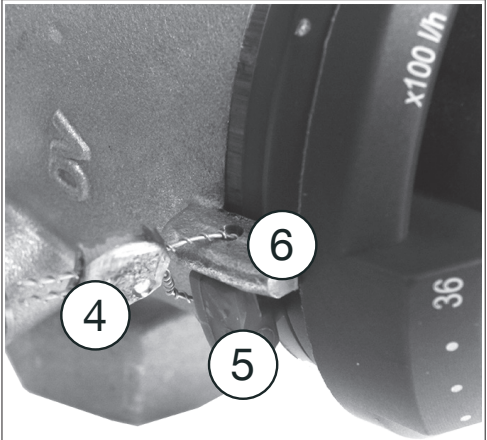

Fig. 12: Securing of the presetting
1. Remove the locking ring (3).
2. Push the handwheel (2) and turn it until the nominal value marking (1) is in line with the required flow rate (the handwheel will snap back into the cogs).
3. Refit the locking ring (3).
As an option, the locking ring (5) can be lead locked at the nominal value marking (6) with the help of the lead sealing set (4) (accessory, item no. 1089091) (see Fig. 12)